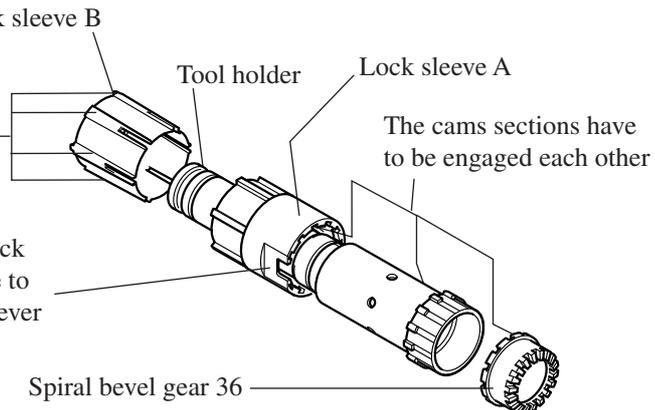

Fig.25A
2. When pressing tool holder into spiral bevel gear 36, the cams on tool holder and the same of spiral bevel gear 36 have to engage each other. (see Fig. 25A)
- * Adjust the cams of lock sleeve A to the same of tool holder. (see Fig.25A)